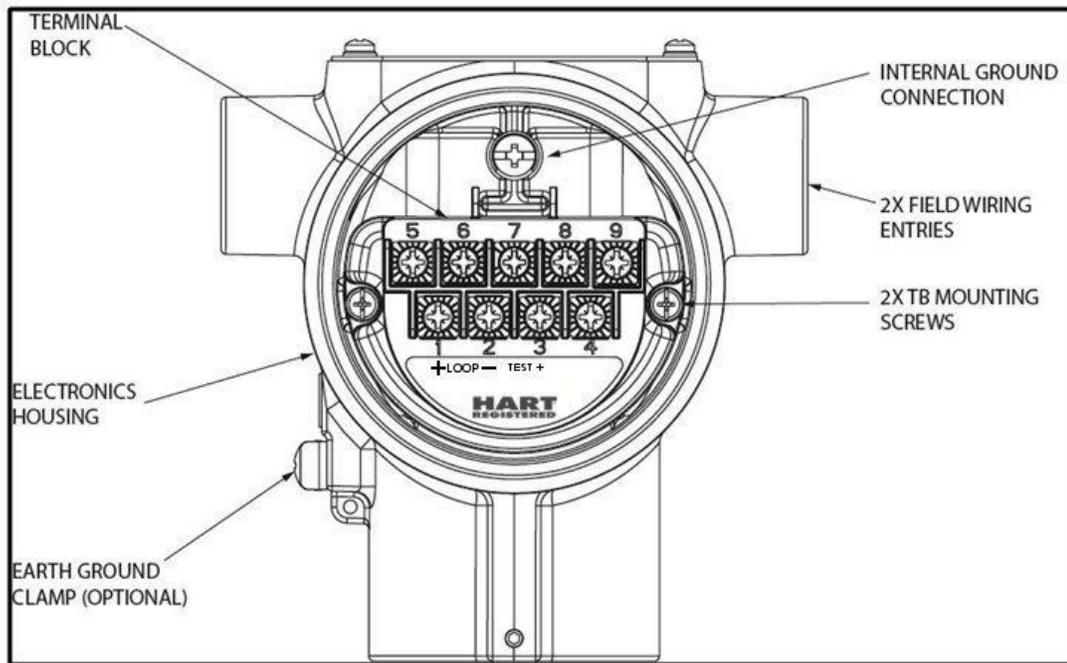

Figure 12 – Transmitter Terminal Board and Grounding Screw
Loop wiring is connected to the Transmitter by simply attaching the positive (+) and negative (-) loop wires to the positive (+) and negative (-) terminals on the Transmitter terminal block in the Electronics Housing shown in Figure 12. Connect the Loop Power wiring shield to earth ground only at the power supply end.
As shown in Figure 12, each Transmitter has an internal terminal to connect it to earth ground. Optionally, a ground terminal can be added to the outside of the Electronics Housing.
1. See Figure 12, above, for parts locations. Loosen the end cap lock using a 1.5 mm Allen wrench.
If your Transmitter includes the optional lightning protection, connect a wire from the Earth Ground Clamp (see Figure 12) to Earth Ground to make the protection effective. Use a size 8 AWG or (8.37mm²) bare or green covered wire for this connection.